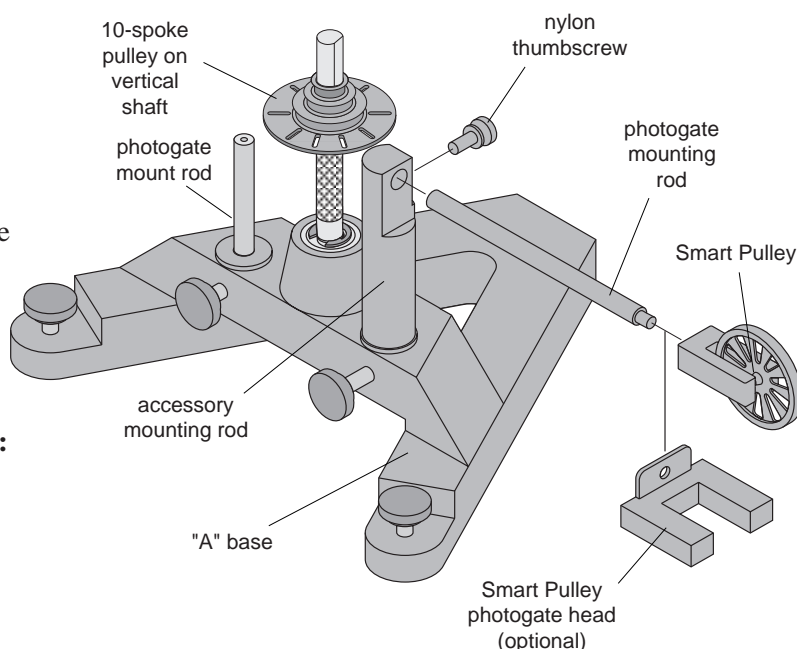

Figure 4: Using the Accessory Mounting Rod With the Photogate Mounting Rod and/or Smart Pulley
- ① Insert the Smart Pulley rod into the hole in the black rod and tighten the set screw against the Smart Pulley rod. See Figure 4.
- ② Rotate the black rod so the string from the pulley on the center shaft is aligned with the slot on the Smart Pulley.
- ③ Adjust the position of the base so the string passing over the Smart Pulley will clear the edge of the table.